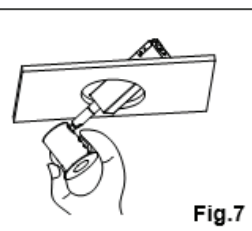

Fig.7
7. Pivot the J box up through the hole, followed by the can, until the trim ring is flush to the ceiling (as Fig.7).